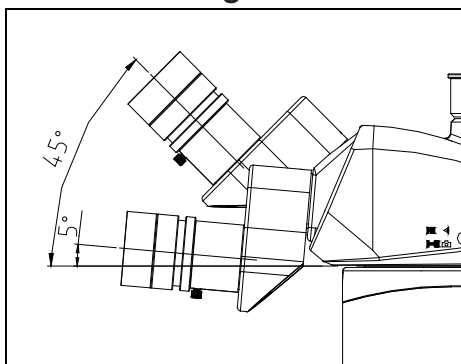

Fig.18
2. Use both hands to hold the binocular components, to move it up or down to the position required. (Fig. 18)